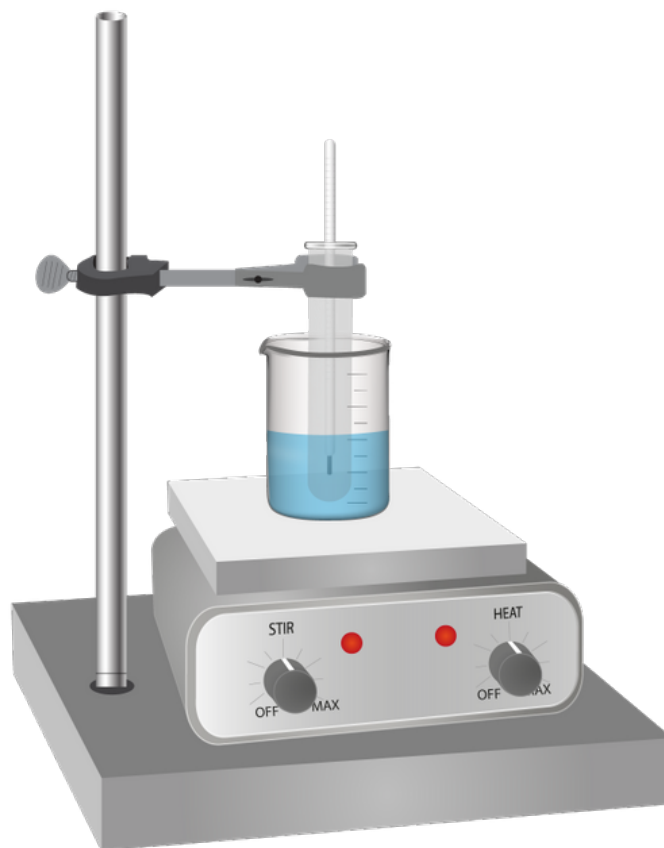

Figure FPD.4: Apparatus for determining freezing point
1. Assemble the apparatus shown in Figure FPD.4 (but leave the test tube and thermometer out until Step 7). Use a 400-mL beaker, filled with approximately 200 mL of water for the water bath. Set the hot plate to around 100-115 °C to heat the water. The final temperature of the water only needs to reach between 50-55 °C. *(It is a good idea to get this water bath set up first, as it takes time for the water to heat up.)*